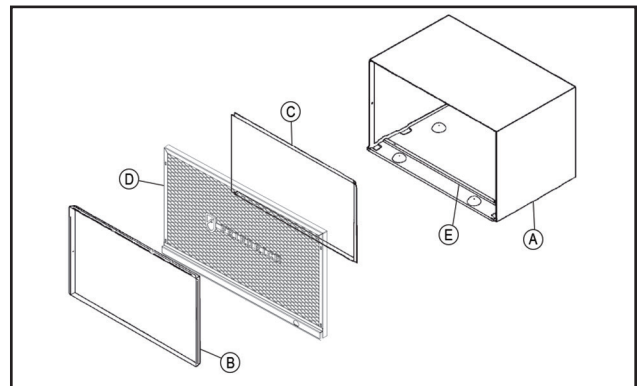

Figure C.4.3
STEP 1. After unpacking the USC sleeve from the carton, remove the indoor weather panel. Place the USC sleeve in the wall opening following the instructions given in the Installation Requirements. Attach the sleeve to the inside wall by driving two #12A x 2" screws in each side of the sleeve (see Figure C.4.3). Shim at the top of the sleeve, midway between the sides. Drive one #12A x 2" screw in the top of the sleeve. If the wall opening is not framed with wood, use expansion anchor bolts or molly (toggle) bolts (not provided).